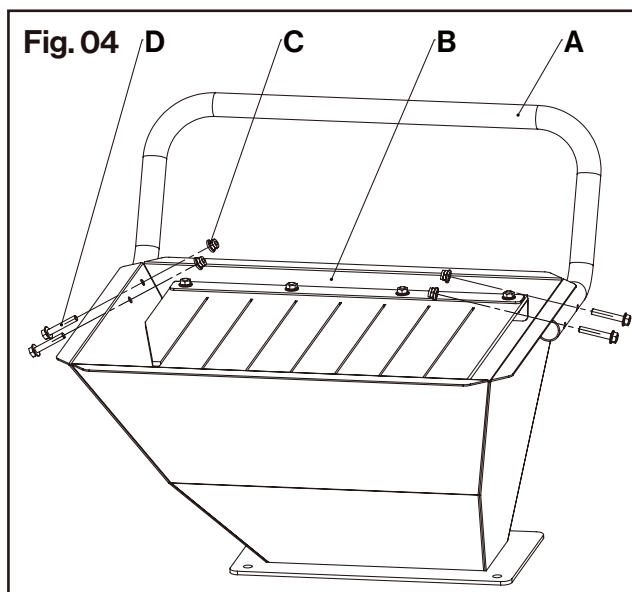

Fig. 04
1. Position the handle(A) by aligning the handle holes with the hopper holes on two sides.
2. Using four flange bolts (D), and flange nuts(C) to secure the handle on the hopper. **(Fig.04)**